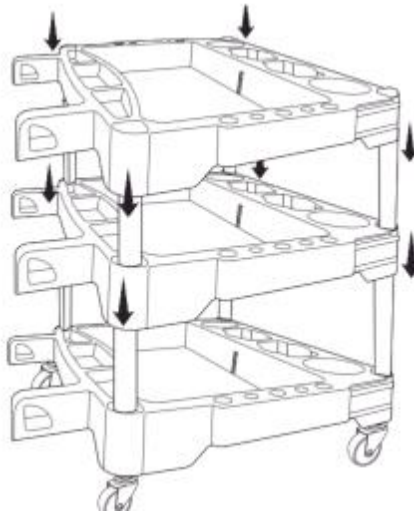

Fig. 4
4. Place the middle tray (1) onto the posts.
5. Repeat Steps 3 and 4 to install the top tray (Fig. 4).